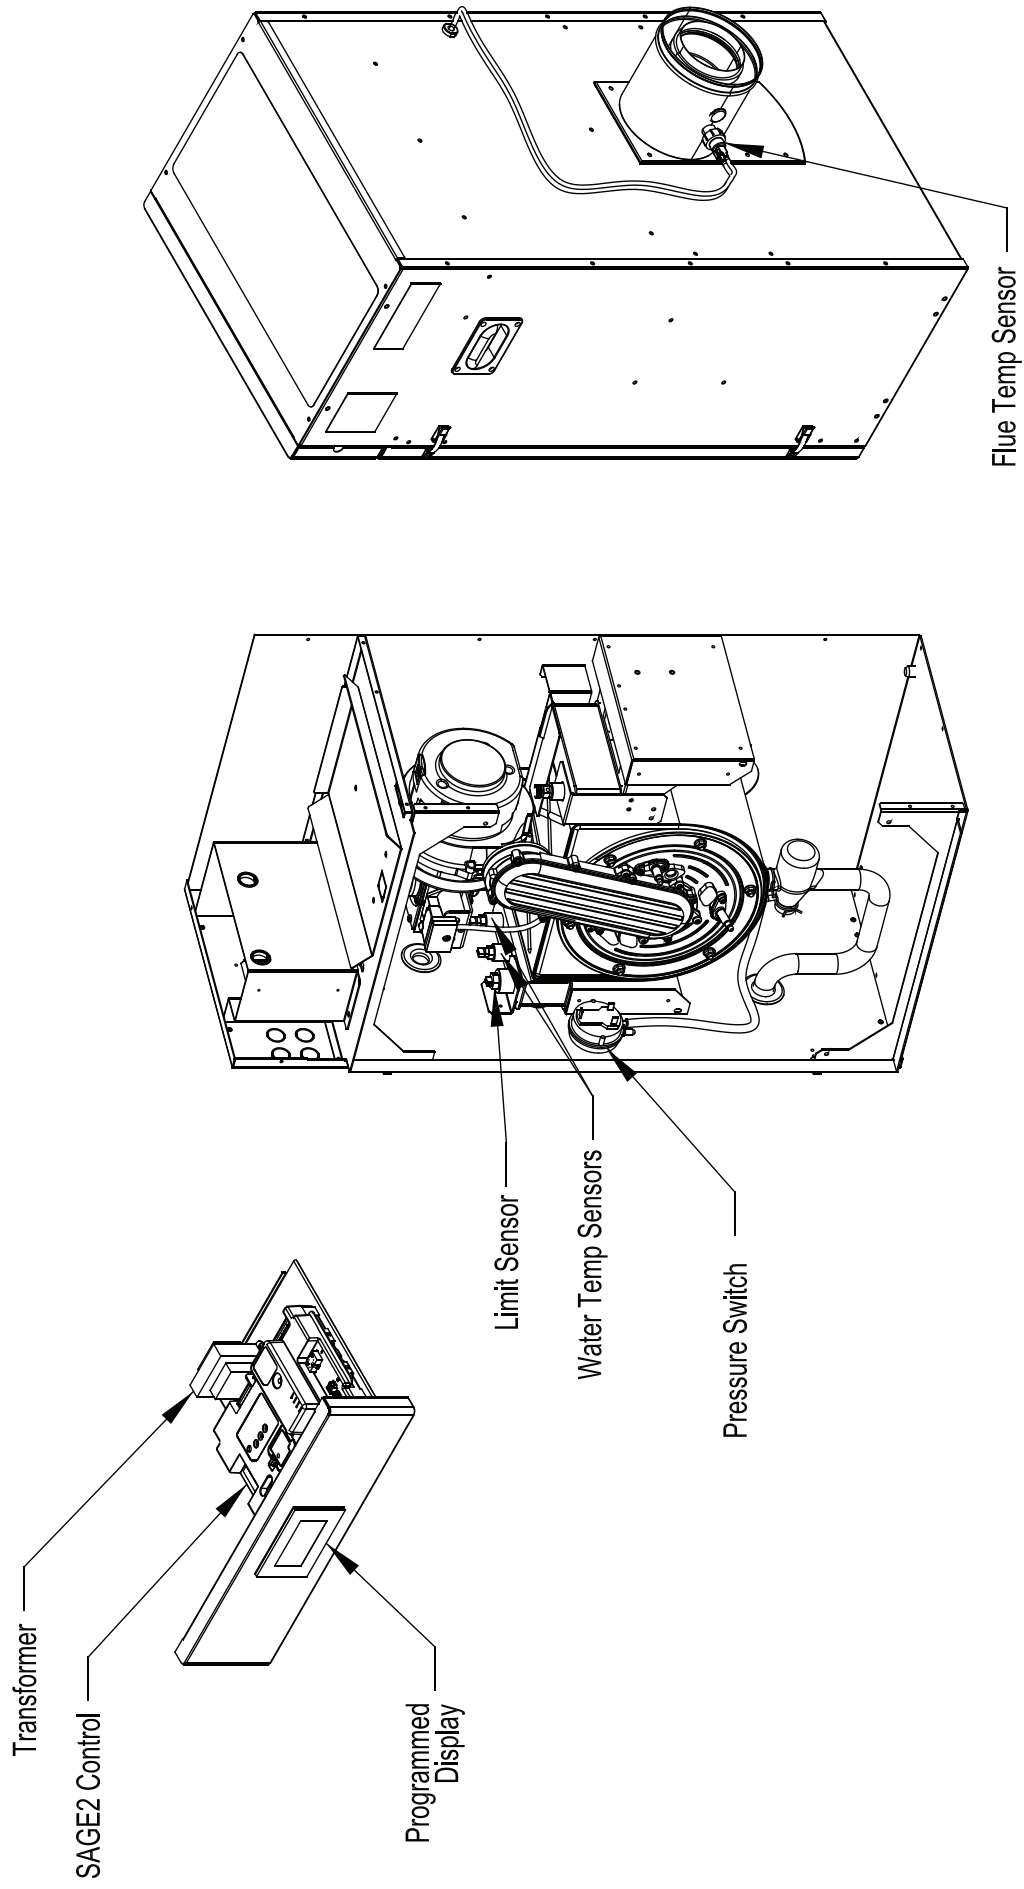

Figure 1: Control Locations (shown with optional concentric vent collar)
2. Instructions to safely light and shut down this boiler are shown on page 4, as well as on a label affixed to the boiler. Control locations shown in Figure 1.